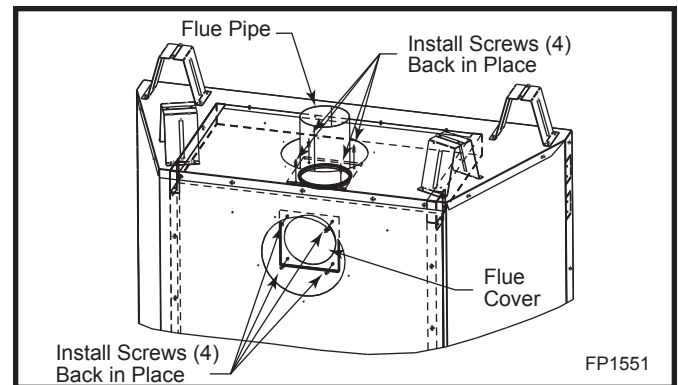

Fig. 13 Replace flue cover and flue pipe.
5. Secure flue cover to back of flue outlet. (Fig. 13)
6. Install flue pipe and gasket removed in step 4 to top of unit with four (4) screws. (Fig. 13)